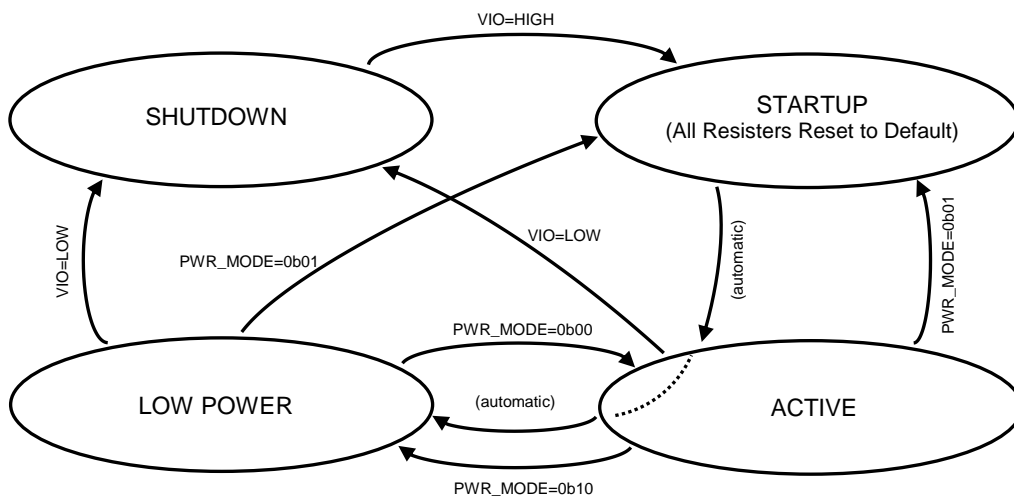

Figure 4. Slave State Diagram
- Figure 4, 5 and Table4 describes the RFASWH526BTF03 has four operating states.
The RFASWH526BTF03 has four operating states, which are ACTIVE, SHUTDOWN, STARTUP and LOW POWER. The transitions between these four states are set writing the PWR_MODE register or VIO as shown in Figure 4. The internal circuit operations in each operating state are shown in Table 4.